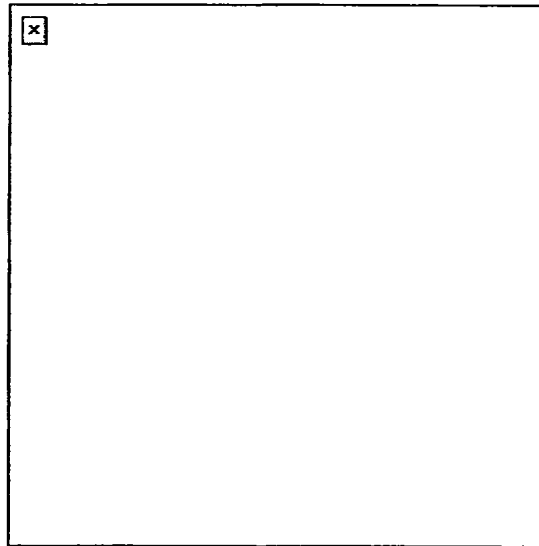

Figure 6. Techniques of fire with respect to the MK 19.
- a. Use correct gun manipulation technique (Figure 6).
- (1) Fixed fire. This is fire delivered against a point target. Only one aiming point is necessary with little or no manipulation of the gun.
- (2) Traversing fire. This is fire distributed against a wide target requiring successive changes in direction of gun. This means using the traversing and elevating (T&E) mechanism to traverse the gun left or right to distribute fire laterally.
- (3) Searching fire. This is fire delivered against a deep target or a linear target with depth in width by successive changes in elevation. This means using the T&E mechanism to move the muzzle of the weapon up or down to distribute fire in depth.
- (4) Traversing and searching fire. This is fire delivered in width and depth by successive changes in direction and elevation. It is employed against a target whose long axis is oblique to the direction of fire.
- (5) Swinging traverse. This is fire delivered against targets that require major changes in direction but little or no change in elevation. Loosen the traversing slide lock enough to swing the gun laterally.
- (6) Free gun. This is fire delivered against moving targets that must be rapidly engaged with fast changes in direction and elevation. To fire free gun, remove the T&E mechanism.